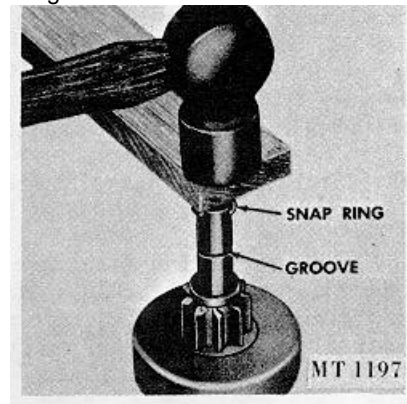

Fig. 10 Installing Snap Ring
- b. Place the snap ring on the end of the shaft. With a piece of wood on top of ring, force the ring over the shaft with a light hammer blow, Fig. 10; then slide the ring down into the groove.